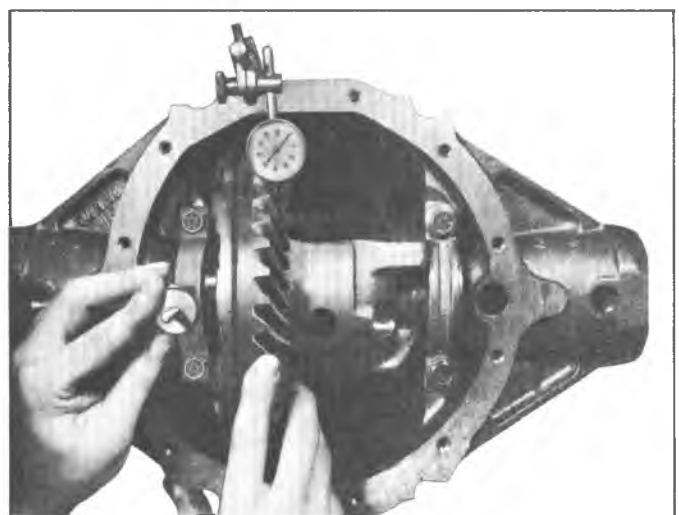

Fig. 6A—Installing Gauging Tool
4. With the ring gear tight against the pinion gear (.000" to .001" backlash), insert gauging Tool J-22779 between the left bearing cup and carrier housing. See Figure 6A.